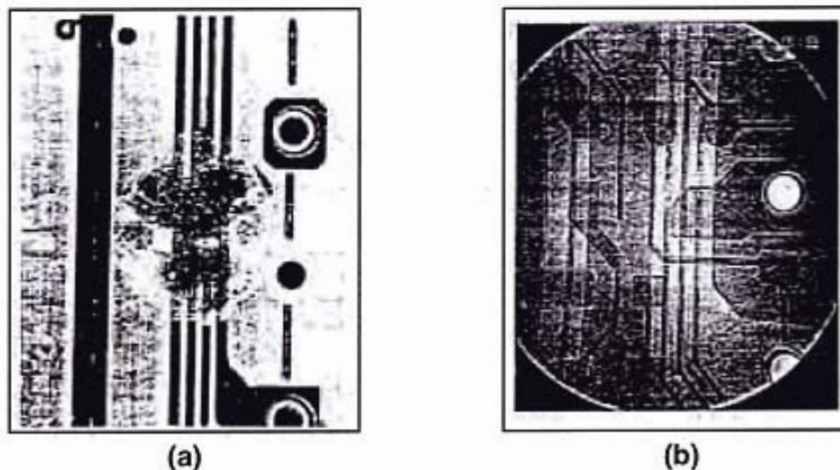

Fig.10 Corrosion at electrolyte dropping test
- 1) Disconnected pattern The pictures of Fig.10 show the capacitor which was forced to drop electrolyte, applied 32V/mm voltage and left for 20 hours at 40°C90~95%RH. (a)